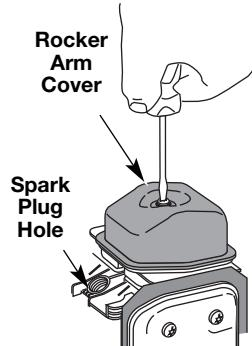

Fig. 28
- Clean dirt from around the rocker arm cover. Remove the screw holding the rocker arm cover with a large flat blade screwdriver or Torx T-25 bit (Fig. 28). Remove the rocker arm cover and gasket.
1. Stop the engine and allow it to cool. Remove the six (6) screws on the back of the engine cover with a Flat-head or T-25 Torx screwdriver (Fig. 28).